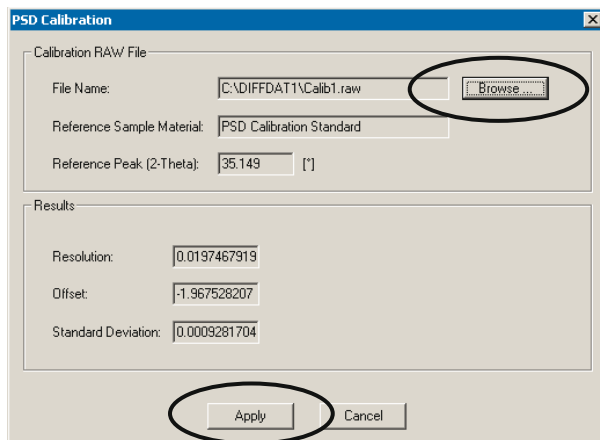

Figure 8.4 Locate the RAW file and apply new calculated values
3. Press **Apply** to analyze the calibration and set the resolution and offset of the detector (see Figure 8.4).